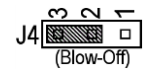
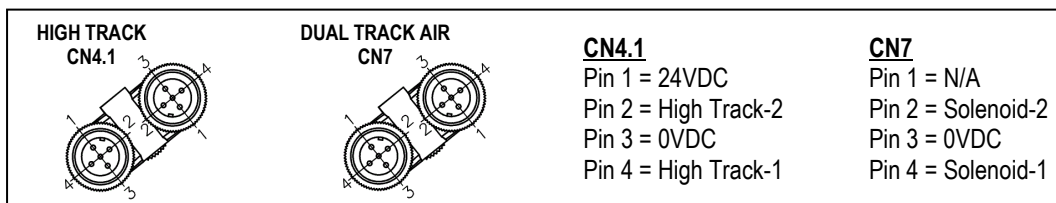

Fig. 18
Fig. 20
6.2 Dual Track Air Blow-Off Setting: Controllers with model numbers ending in A are internally configured to operate feeders with dual line air blow-off. On these models, ports CN4.1 and CN7 are internally configured for dual operation. See Fig. 20. With the use of Tee couplers, CN4.1 will operate two track sensors while CN7 will operate two air solenoids. See Fig. 21 & 22 on next page. To set for Dual Track Air Blow-off place a jumper on J4 pins 2 & 3, and J2 pins 5 & 6 on control boards 1 and 2. See Fig. 18 & 19.